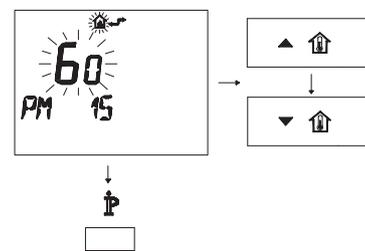

Figure 12.20
- Change the programmed SET using the buttons \blacktriangle \uparrow or \blacktriangledown \uparrow until a **set of 60** is displayed, wait until the programmed number starts to flash (Figure 12.20).